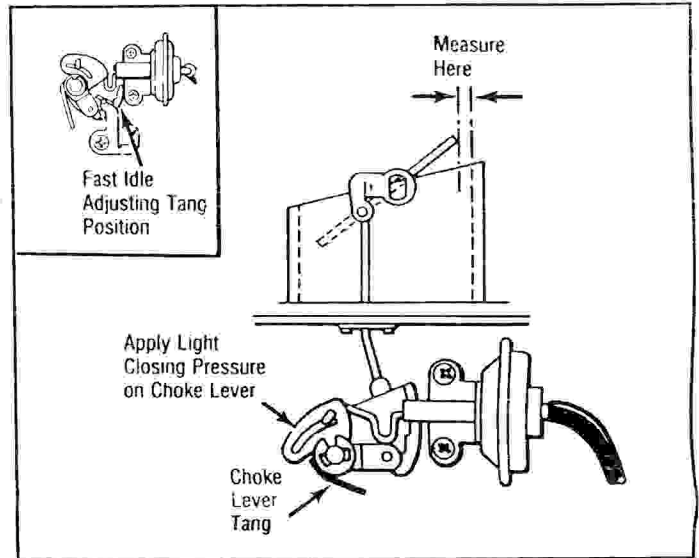

Fig. 12 Fast Idle Cam Adjustment (Remote Choke Models)
1. Position fast idle adjusting tang on the second highest step of the fast idle cam. Move choke valve toward the closed position with light pressure on the choke lever. See Fig. 12.